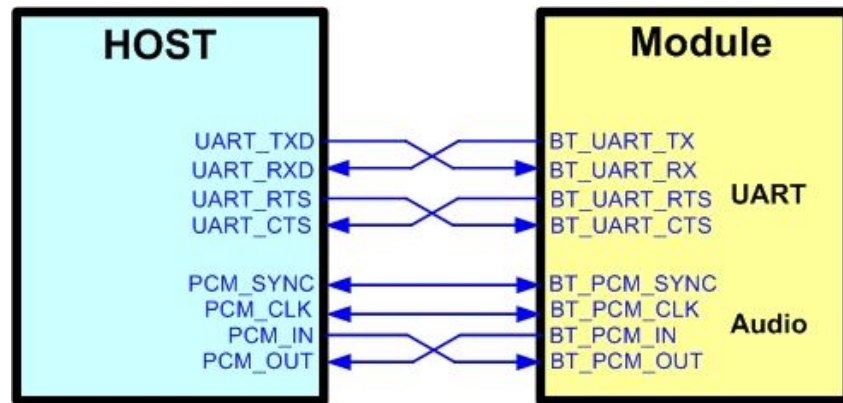

Figure5. Bluetooth verification connection interface to Host UART
- ❖ Refer to Figure5 UART pin definition connects the J16 interface of AP12611 evaluation board to Host UART control interface.